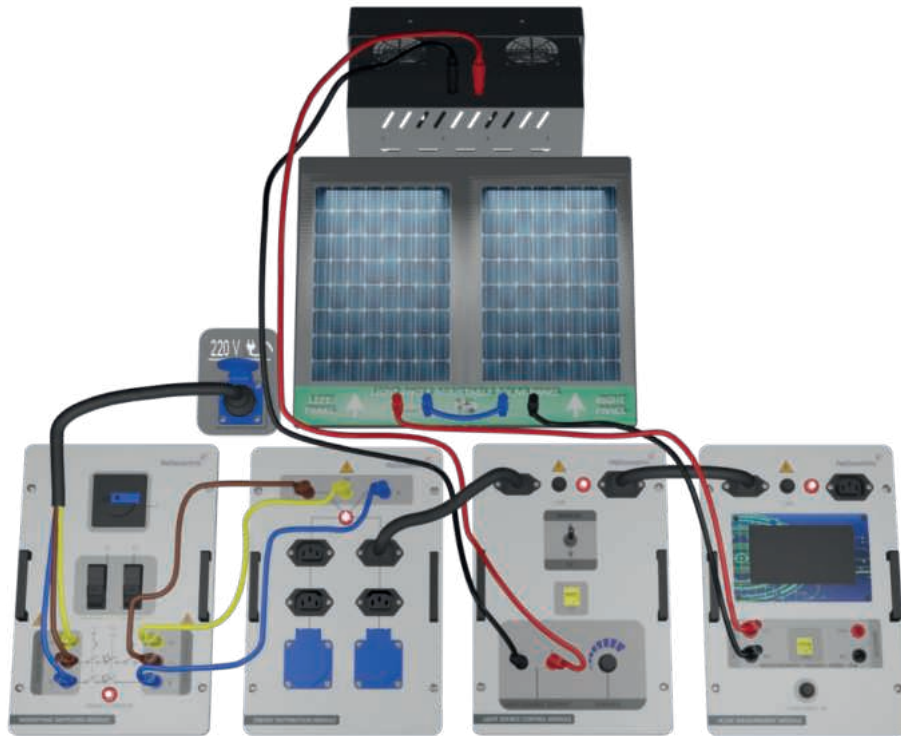

Figure-42. Installation Image of Examination of the Series Connection of Photovoltaic Panel (For Voltage)
1. Set up the connection as specified in Figure-42. Ensure a constant level of light in the laboratory by creating an average scenario. Any alterations to the positions of the lamps or curtains will have an impact on the experimental outcomes.